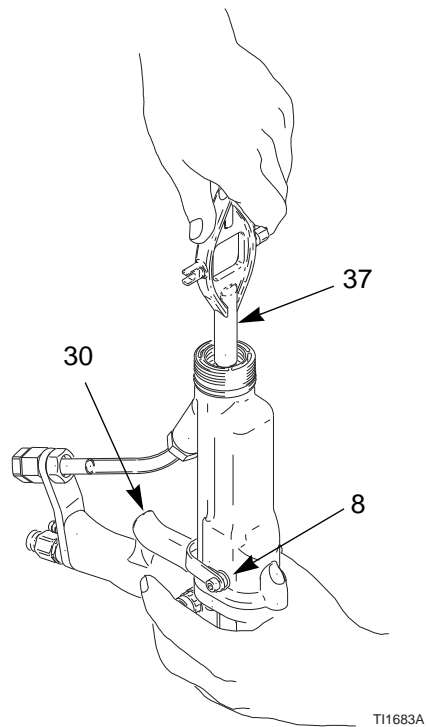

Fig. 27. Fluid Packing Removal
4. Loosen the trigger screws (8) and trigger (30). See FIG. 27..
5. Remove the packing rod (26), using the multi-tool (37).